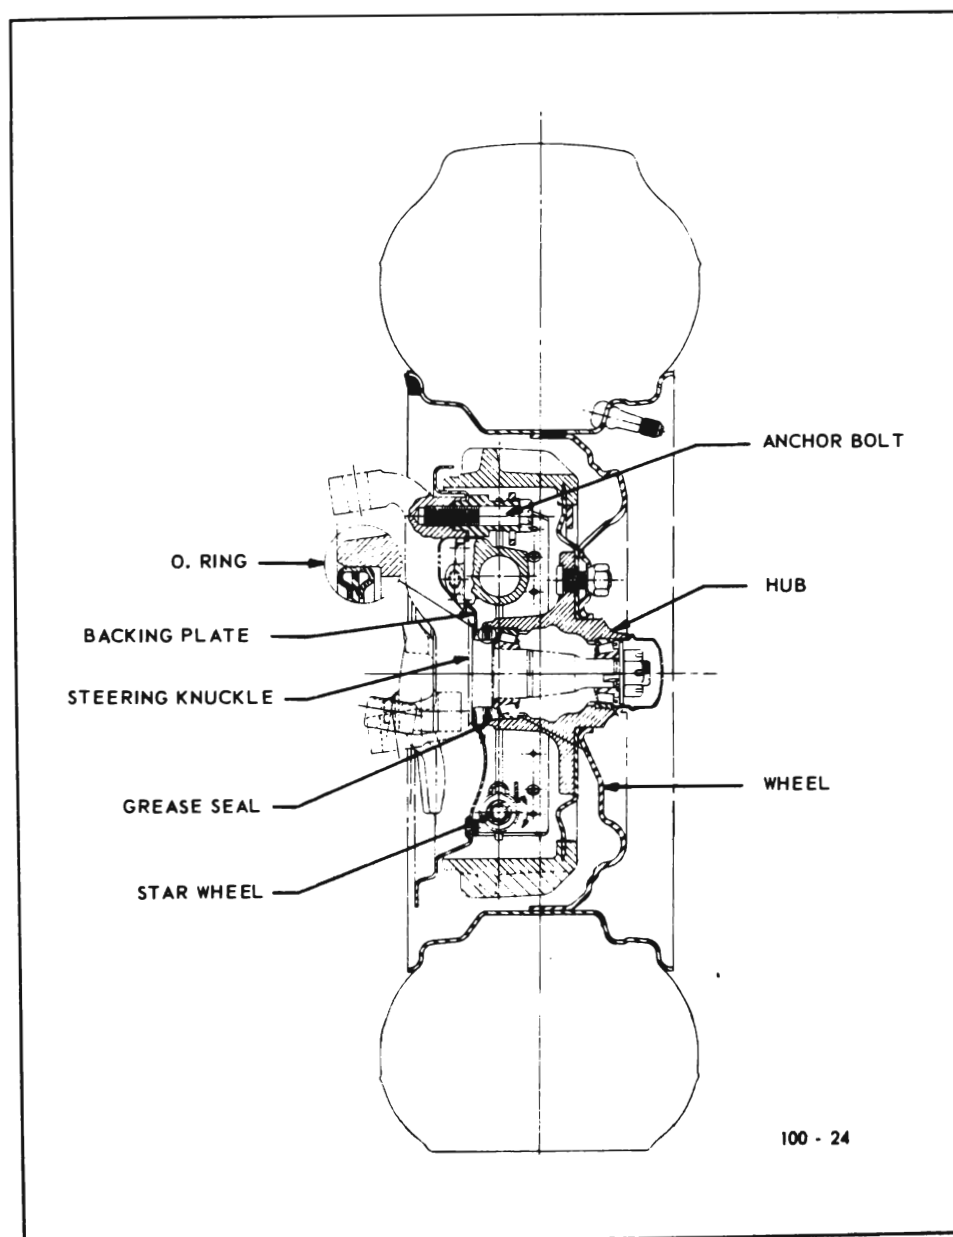

Figure 100-2-Front Wheel Hub Bearings - 43-44000 Series
2. Remove outer race and outer bearing assembly from hub. Remove oil seal from hub so that inner race and bearing assembly can be removed from hub. See Figure 100-2, and 100-3.